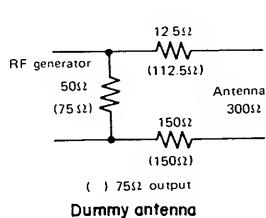

Fig. 1
- * When connecting the r.f. generator to the antenna terminal use the dummy antenna . . . refer to figure 1.